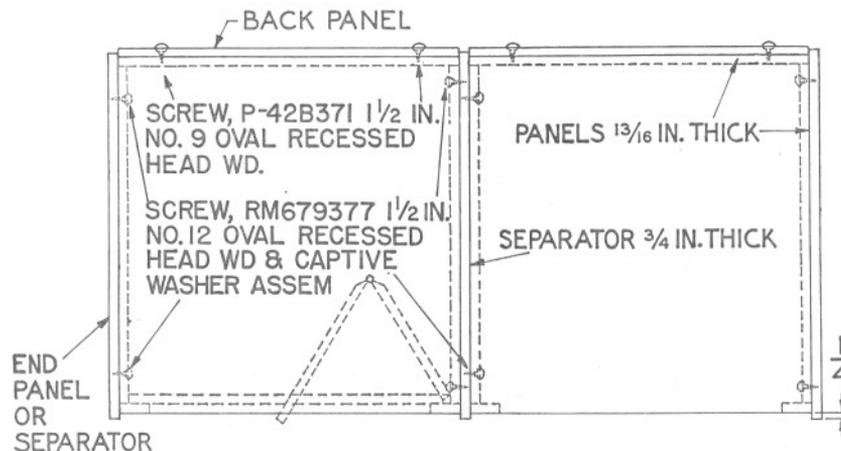

Fig. 1 — Typical Layout
**3.02** Screw holes for the assembly are aligned to facilitate assembly in the field. When assembled, the sides of the booth unit shall make contact with the separators or panels along their entire length. Assemble booths in accordance with the layout as shown in Fig. 1.